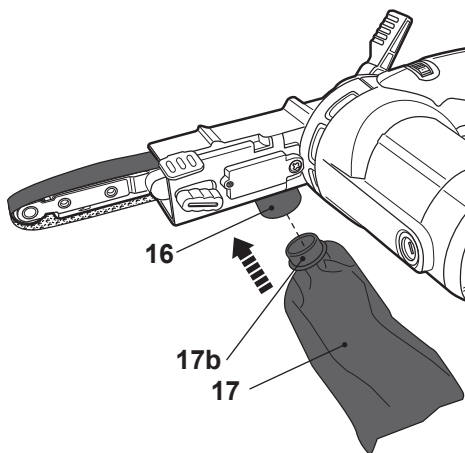

Fig. 9
- > Align the dust bag connector (17b) with the dust extraction outlet (16).
- > Attach the dust bag assembly (17) onto the outlet (16) all the way to the stop (Fig. 9).